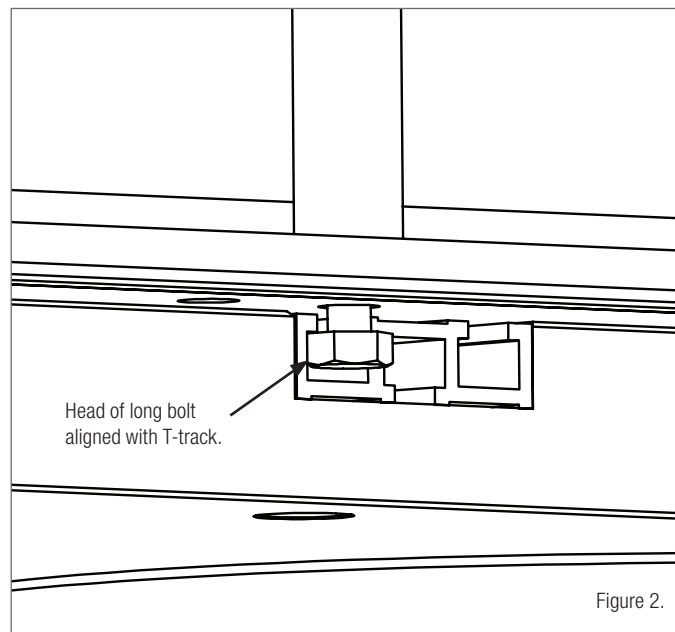

Figure 2.
STEP 2. Once both sets of hardware are loosely assembled on the fence, align the head of each long bolt with the T-track as shown in figure 2. Slide the fence to the desired position and tighten both knobs.